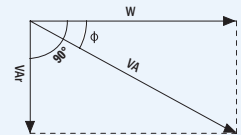

Figure 1
Power factor is the ratio of Active Power (W) to the Apparent Power (VA) (Figure 1).